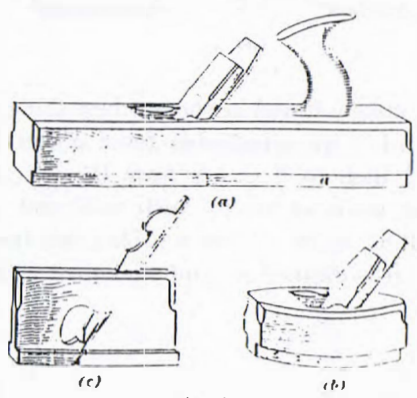

Fig. 1
1. Planes.—The workmen who construct the bodies of vehicles of any kind are known as bodymakers or coachmakers, and the tools used by them include all those of the carpenter and joiner, together with a few special tools that are not generally employed in any other branch of woodworking. The special planes that are used are shown in Fig. 1; the door jack-plane (a) is similar to an ordinary jack-plane, but is rabbeted on each side at a to allow the plane iron to work into the corner of the rabbet that forms the *door stop* or *door check*. The work is afterwards finished off with the door smoothing-plane shown in (i), which is